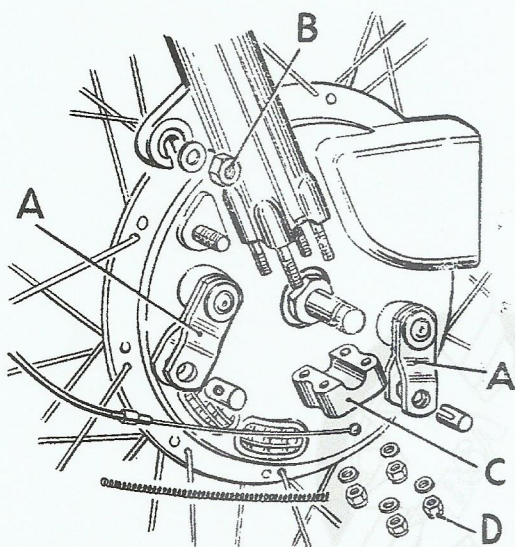

Fig. F1. Removing the front wheel.
Completely slacken the brake cable at the handlebar adjuster and uncouple the cable from the lever. Extract the inner and outer cables from the levers (A) Fig. F1, on the brake cover plate and slacken its retaining nut (B). Remove the end caps (C) from the fork outer members, at the same time supporting the wheel until all eight nuts (D) are released. As soon as the brake anchor plate is clear of the slotted ear on the outer member, the wheel assembly can be taken out.